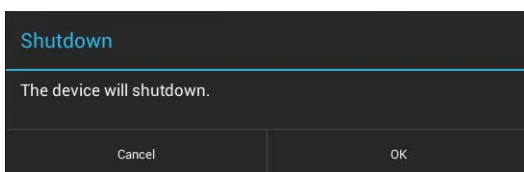

FIG. 7 Shutdown window
1. In the *Maintenance* page, select **Shutdown**. This opens the *Shutdown* window (FIG. 7):